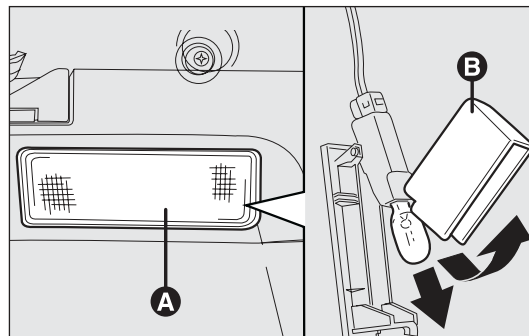

fig. 180
BOOT LIGHT fig. 180
- ☐ remove the light A-fig. 180 by levering on the point shown by the arrow.